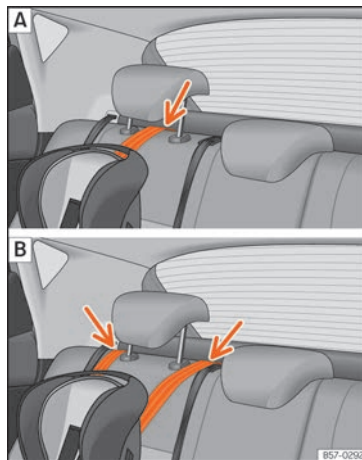

Fig. 28 Rear seats: adjustment and assembly according to the Top Tether belt.
- Place the belt under the head restraint of the back seat »» Fig. 28 (depending on the instructions of the chair itself, lift or remove the head restraint if necessary).